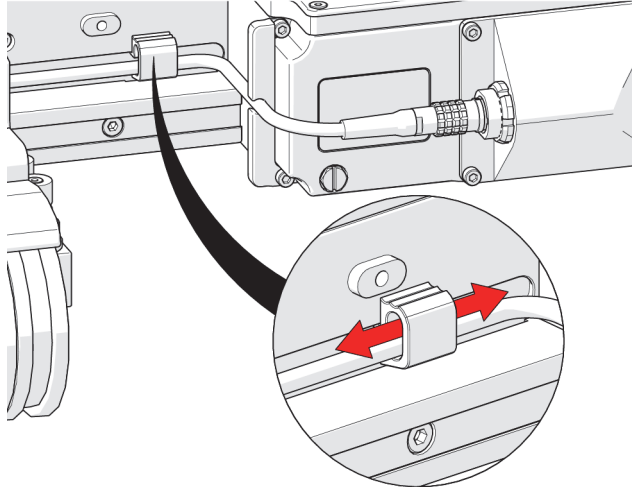

Figure 2-33 Adjustable cable clips
3. Route the cable through the adjustable clips on the raster arm (see Figure 2-33 on page 71).